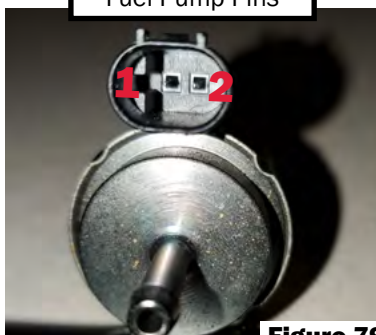

Figure 79
- Fuel Pump is required to be installed horizontally. It is not recommended to mount the assembly rotated 180° (see Figure 79).